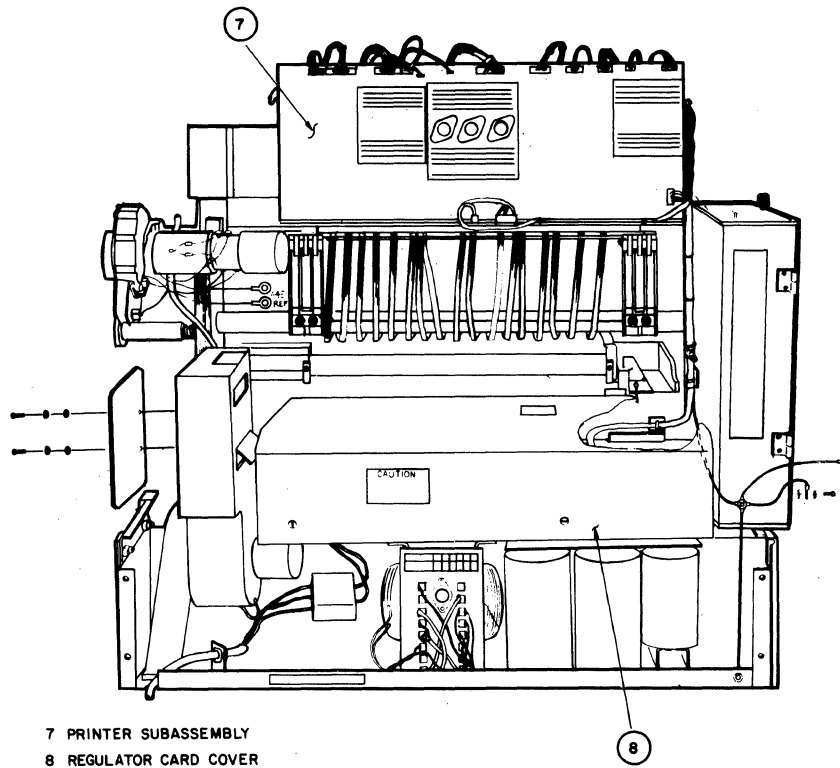

Figure 2-5 Line Printer - Regulator Card Location
1. Remove back cover panel assembly (item 6) and rear panel chassis assembly (item 3) to expose regulator card.
4. Open cover assembly (item 1) and tilt it all the way back to rear of printer.
5. Remove thumbscrew (item 2) from each side of printer cover.
7. At rear of printer, loosen the two large captive screws on rear chassis panel assembly (item 3).
8. Disengage rear chassis panel assembly from lower paper deflector (item 4) by unsnapping paper deflector clip (item 5) on left- and right-hand sides of lower paper deflector. Temporarily store rear chassis panel assembly.
9. Remove lower paper deflector assembly (item 4) by lifting it straight up and off printer.
10. Remove back panel assembly (item 6) by loosening four catch screws one-half turn.
11. From rear of printer, lift rear printer subassembly (item 7) in Figure 2-5 and tilt it towards front of printer.
12. Remove fiber regulator card cover (item 8) in Figure 2-5 by loosening the four captive screws and lifting card cover off and placing it aside.
15. Reinstall fiber regulator card cover (item 8 in Figure 2-5) and tighten the four captive screws.
16. From front of printer, tilt printer subassembly (item 7 shown in Figure 2-5) towards rear of printer and position it over fiber regulator card.
17. Replace back cover panel assembly (item 6) and tighten the four catch screws.
19. Secure rear chassis panel assembly (item 3) by tightening large captive screws on left- and right-hand sides of panel.
20. Connect lower paper deflector (item 4) to rear chassis panel assembly by engaging paper deflector clip (item 5) on left- and right hand sides of panel.
21. From rear of printer, install printer cover (item 1) by sliding it over short rails (item 10) on left- and right-hand sides of printer.
22. To secure printer cover, install and hand tighten the two thumbscrews (item 3) on left- and right-hand short rails.